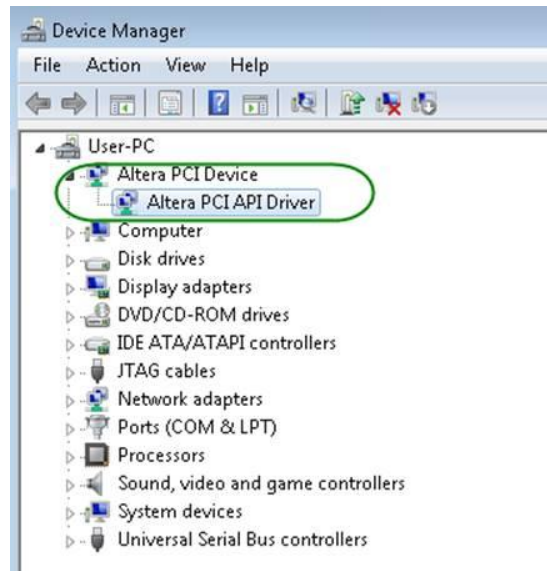

Figure 5-11 Screenshot for PCIe Driver
6. Make sure the Windows has detected the FPGA Board by checking the Windows Control panel as shown in **Figure 5-11**.